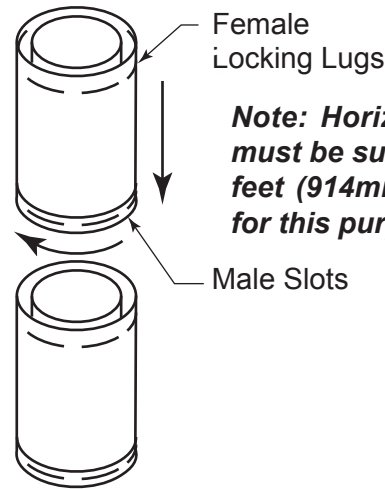

Figure 15 - Rigid Vent Pipe Connections
2. Assemble the desired lengths of pipe and elbows necessary to reach from the burner system flue up through the firestop. Be sure pipe and elbow connections are fully twist-locked. *Figure 15*, page 18